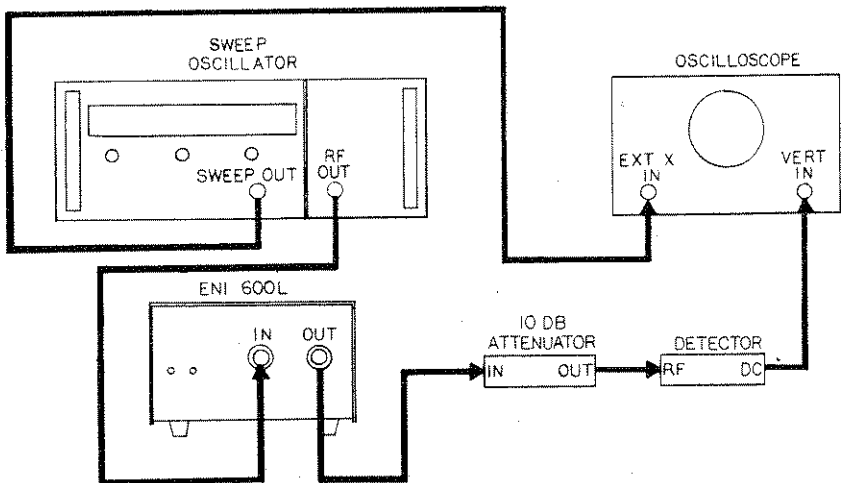

Fig. 4.1 Gain Measurement
Connect the equipment as shown in Figure 4.1, then proceed as follows:
- (g) Reconnect the 600L into the test set-up of Figure 4.1.